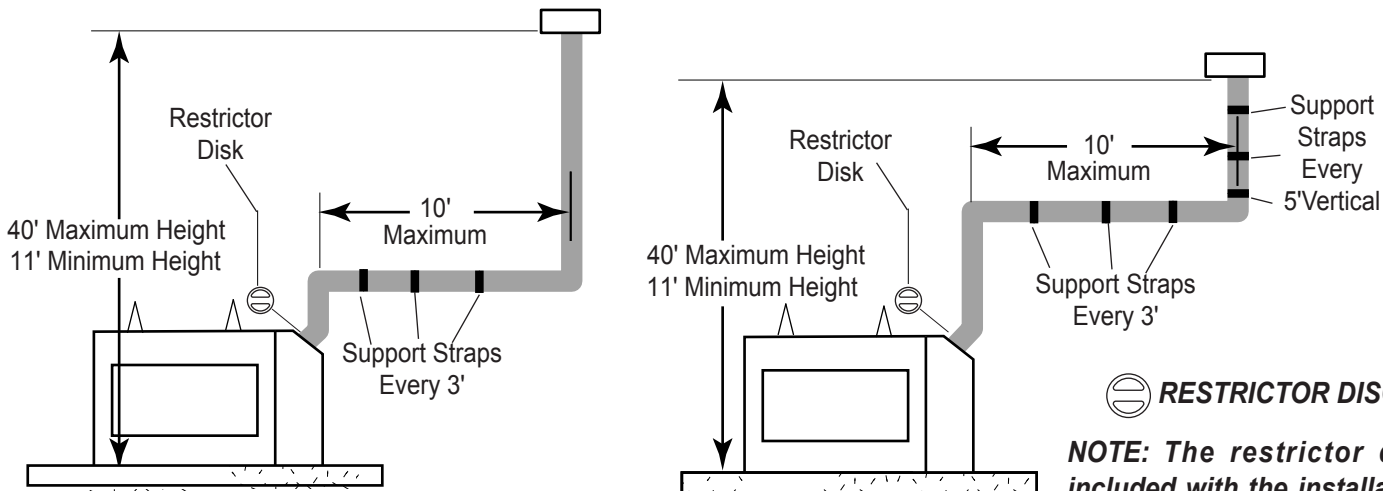

Figure 25- Support Straps for Horizontal Runs
- Vertical installations up to 40' (12m) in height. Up to a 10' (3m) horizontal vent run can be installed within the vent system using a maximum of two 90° elbows. See Figure 25.
**NOTE: If an offset is needed to avoid obstructions, you must support the vent pipe every three (3) feet. Use wall straps for this purpose. See Figure 25, page 22. Whenever possible, use 45° elbows instead of 90° elbows. The 45° elbow offers less restriction to the flow of the flue gases and intake air.**